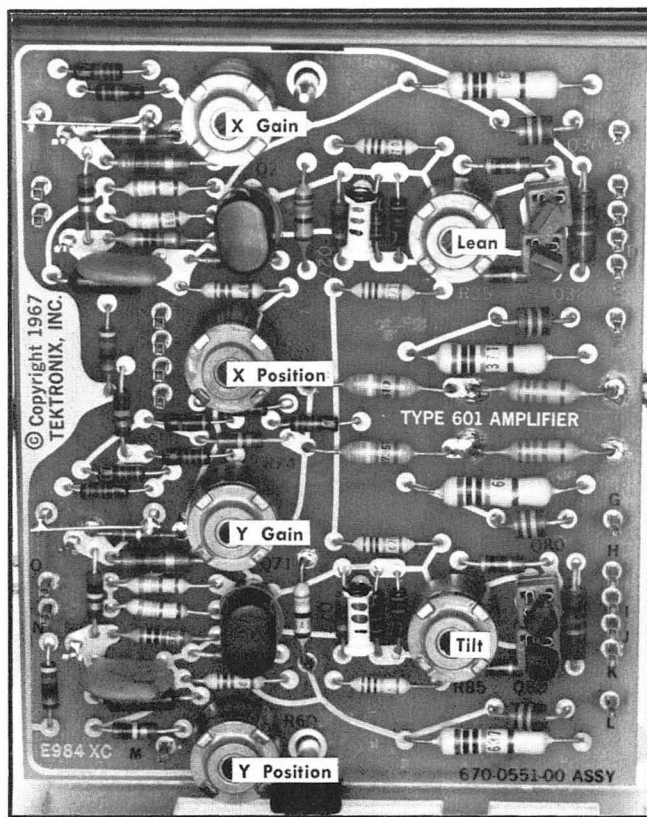

Fig. 5-1. Deflection Amplifier circuit board, showing locations of internal controls that are to be adjusted in this performance check procedure.
For this Performance Check, it is necessary to adjust the controls on the Deflection Amplifier circuit board. These controls are shown in Fig. 5-1.
DO NOT TOUCH any of the other internal controls. If controls other than those shown in Fig. 5-1 are adjusted, complete recalibration of the Type 601 may become necessary.
g. Remove the plastic mask from the CRT face and place the test graticule in front of the Type 601 screen. Align the graticule edges with the edges scribed on the protection shield, and secure the graticule in place. Position the trace to graticule center with the Y Position control shown in Fig. 5-1.
i. If necessary, adjust the Tilt control (Fig. 5-1) so that the trace is parallel to the horizontal graticule lines.
l. Position the vertical trace to the graticule center with the X Position control (Fig. 5-1).
n. If necessary, adjust the Lean control (Fig. 5-1) so that the trace is parallel to the vertical graticule lines.
c. Set the test oscilloscope Normal-Single Sweep switch to Normal and adjust the X Gain control (Fig. 5-1) for 5 centimeters of display. Position the left edge of the display to the left-hand edge of the graticule.
h. Set the standard amplitude calibrator for a 0.5-volt square-wave output and adjust the Y Gain control (Fig. 5-1) for 5 centimeters of display. Position the bottom of the display to the bottom graticule line.